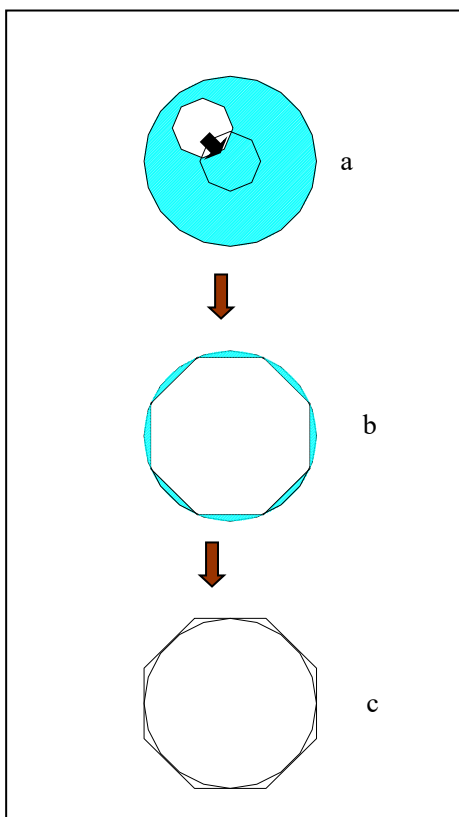

Figure 21
1. Turn the light gate ① to the "●" position.
3. Turn the light switch ① to the "O" position, keep the light path clear.
5. Place the field of view light on the lighting device with a push-pull lever ③ outward. Pull out until the light is the smallest diameter.
6. Insert the hexagon wrench into the middle screw ② of the field of view diaphragm so that the image of the diaphragm is in the center of the field of view. (Figure 21 shows the adjustment process).
7. Push the diaphragm switch ③, and open the diaphragm until the image of the diaphragm is connected to the periphery of the field of view. If the image is not correctly aligned, it is realigned.
8. Open the field diaphragm so that the image is in contact with the field of view (c in Figure 21).